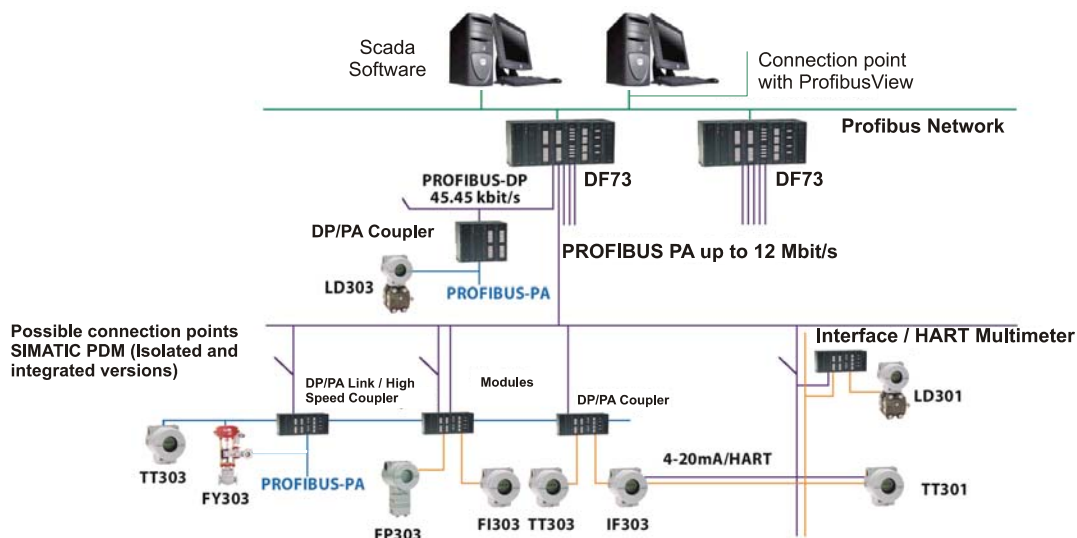

Figure 1.17 – Bus Parametrization
The number of devices (N) per PA segment is the purpose of quiescent consumption of each PA device, the distances involved (type A loop cable resistance: 44 Ω /km), the DP/PA Coupler and its drained current, area classification (couplers for classified area drain currents around 110 mA, 12V output voltage), besides the FDE current (usually 0 mA, depending on the manufacturer). In hazardous areas the device number must be limited by intrinsic safety barrier, according to security restrictions in the area and limits of the DP/PA coupler. See Figure 1.17.